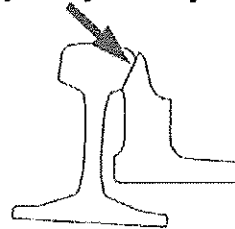
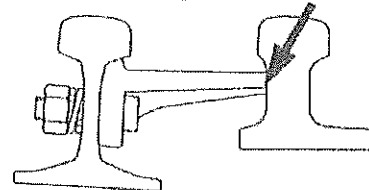

Fig. 3-Switch rail mating to stock rail
Fig. 4-Alignment of switch to switch stops
6. Adjust state of running edges, check also the switch rail mating to the stock rail and the proper alignment of the switch to the switch stops, Fig. 3 and Fig. 4.